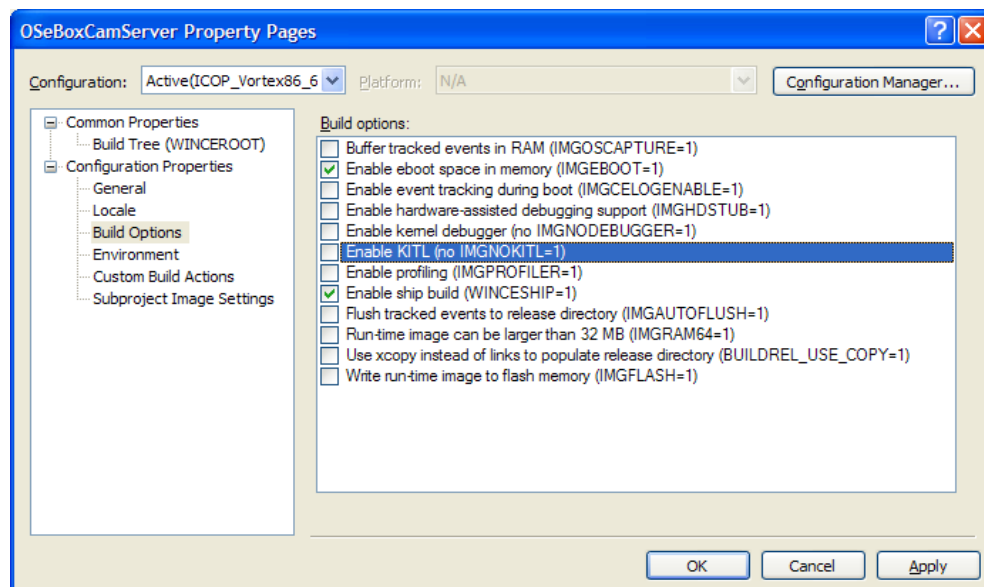

Figure 48. VS 2005 Property Page
17. Click to high-light Build Options, a list of Build Options with check boxes will be shown on the right side of the screen as shown on figure 48.
18. Select Enable eboot space in memory (IMGEBOOT=1). This option adds support for Ethernet debugging by bundling the Ethernet boot loader in the image as shown in figure 48.
19. Select Enable ship build (WINCESHIP=1). This option will enable a retail build and suppress debug messages as shown in figure 48.
20. Disable KITL – Make sure the Enable KITL (no IMGNOKITL=1) check box is NOT selected as shown in figure 48.